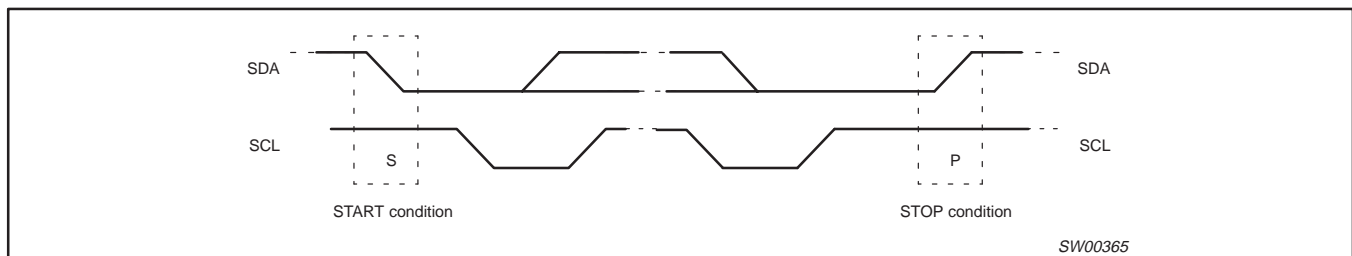

Figure 6. Definition of start and stop conditions
Both data and clock lines remain HIGH when the bus is not busy. A HIGH-to-LOW transition of the data line, while the clock is HIGH is defined as the start condition (S). A LOW-to-HIGH transition of the data line while the clock is HIGH is defined as the stop condition (P) (see Figure 6).